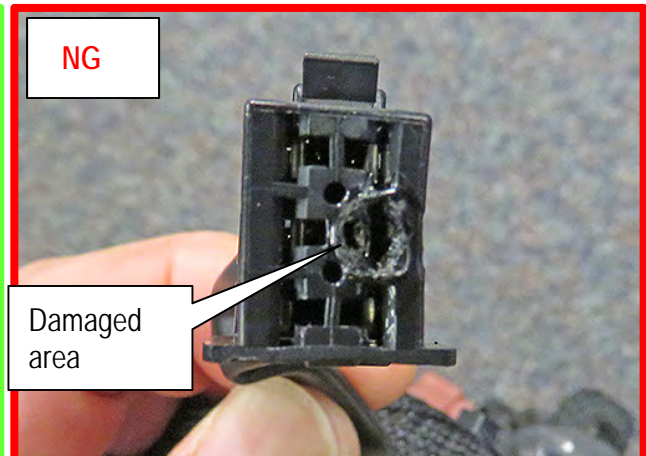
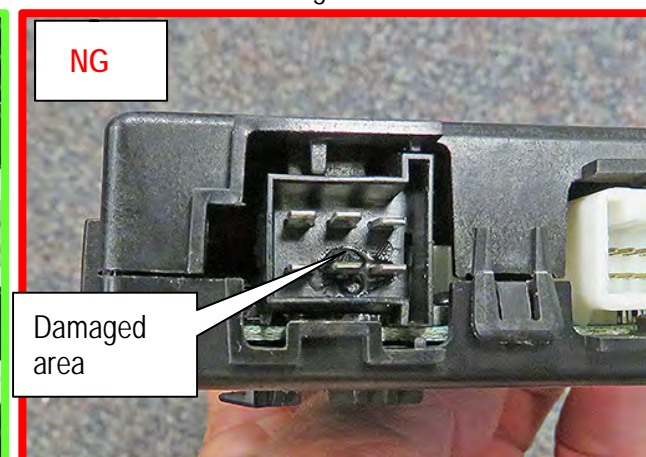

Figure 3
Figure 5
- The harness connector or control unit of the climate controlled seat appears as shown in Figure 3 or Figure 5.
- If the harness connector or the control unit appear similar to Figure 3 and/or Figure 5 (NG), proceed to step 9.